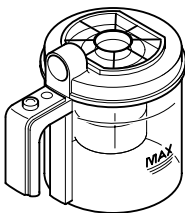

Fig.16
■ Empty the dust container at the latest when the "Max" mark (Fig. 16) has been reached or when it is losing suction power.